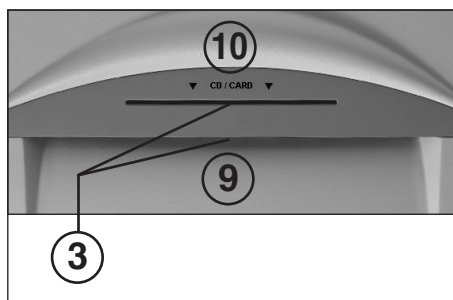

fig. 2
- 3 = Light barrier (forward running) (fig. 2)**
- Feed the paper into the cutting system through the paper feed slot (9) (fig. 2).
- Feed the data media (CDs, DVDs or credit cards) into the cutting system one by one through the separate CD/DVD feed slot (10) (fig. 2).